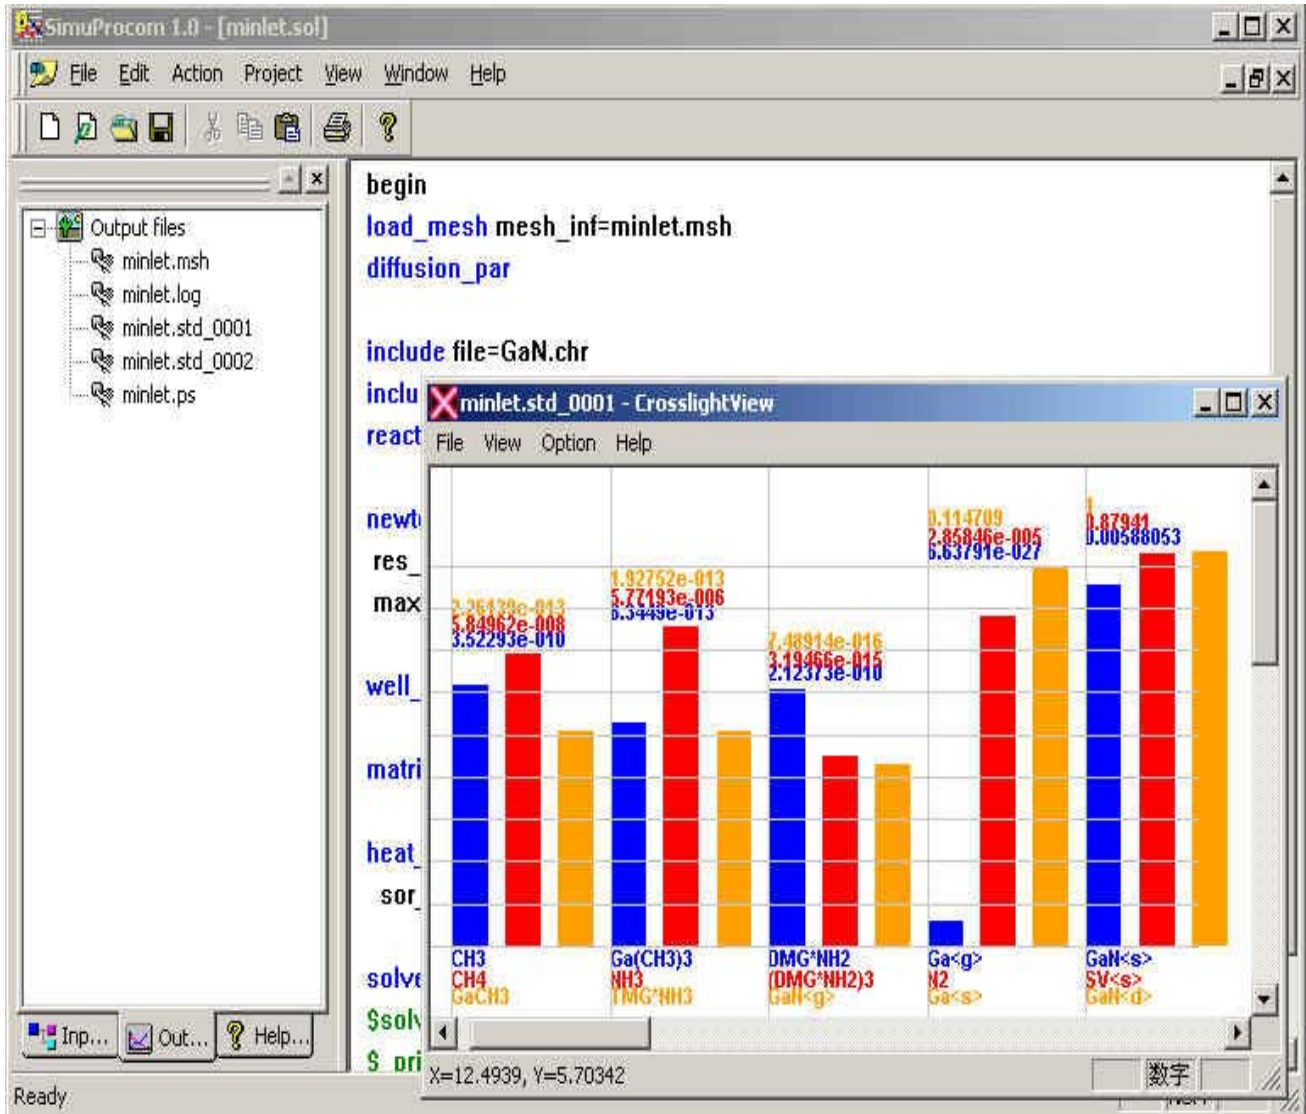

Figure 3: SimuProcom graphic user interface is used to create and control the simulation involved in a GaN growth.
- 3) A screen capture of SimuProcom (GUI) control program is shown with a display of chemical species using the graphic tool CrosslightView in Figure 3.